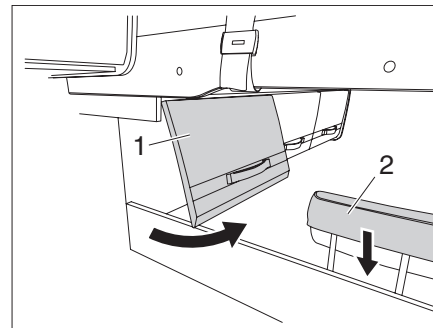

Fig. 99 Storage compartment flap and headrest
- ▶ Open the storage compartment flap (Fig. 99,1).
- ▶ Lower the headrest (Fig. 99,2).